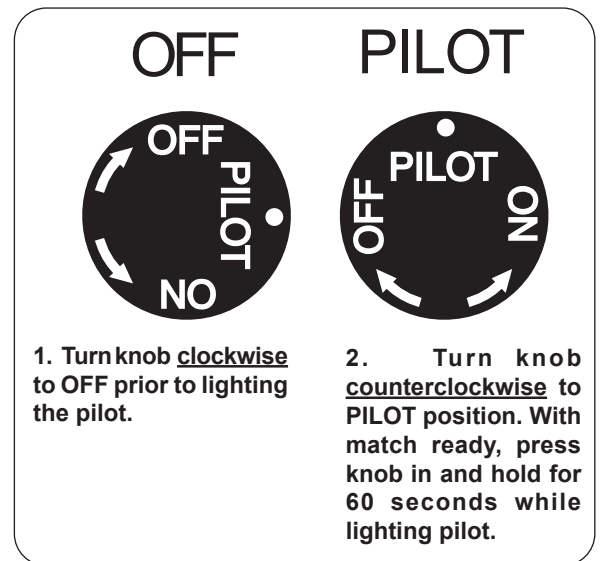

Fig. 37-1 Control knob detail (OFF, PILOT)
1. Locate the valve on the side of the unit. Push in the gas control knob slightly and turn clockwise to **OFF** (Fig. 37-1).
**Allow five (5) minutes for any gas in the unit to dissipate. IF YOU SMELL GAS, SEE STEP B ABOVE.** If you don't smell gas, go on to step 2.
2. Turn the control knob counterclockwise to **PILOT** (Fig. 37-1). Push the control knob **firmly and fully** in and hold. Hold a long fireplace match or lighter near the thermocouple to light the pilot. Continue to hold the control knob in for approximately 60 seconds after the pilot is lit, then release the knob. The pilot will remain lit.